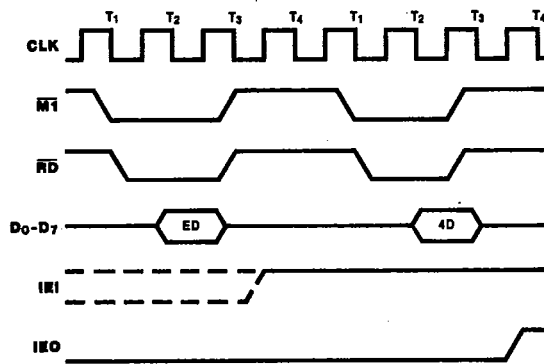

Figure 7. Return From Interrupt Timing
**Return from Interrupt Timing.** At the end of an interrupt service routine the RETI (Return From Interrupt) instruction initializes the daisy chain enable lines for proper control of nested priority interrupt handling. The CTC decodes the 2-byte RETI code internally and determines whether it is intended for a channel being serviced. Figure 7 shows RETI timing.